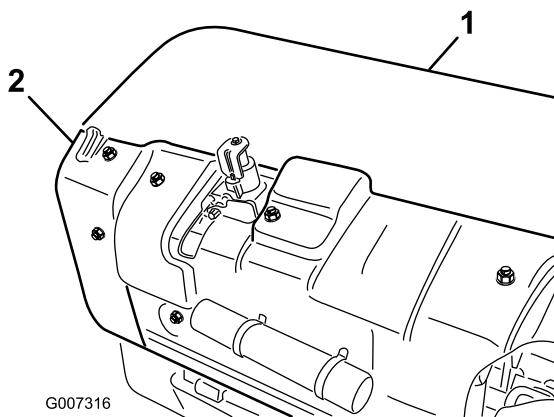

Figure 30
A. Remove the rear coring head cover (Figure 30).
B. Remove the pulley shield mounting bolts and remove the shield (Figure 30).